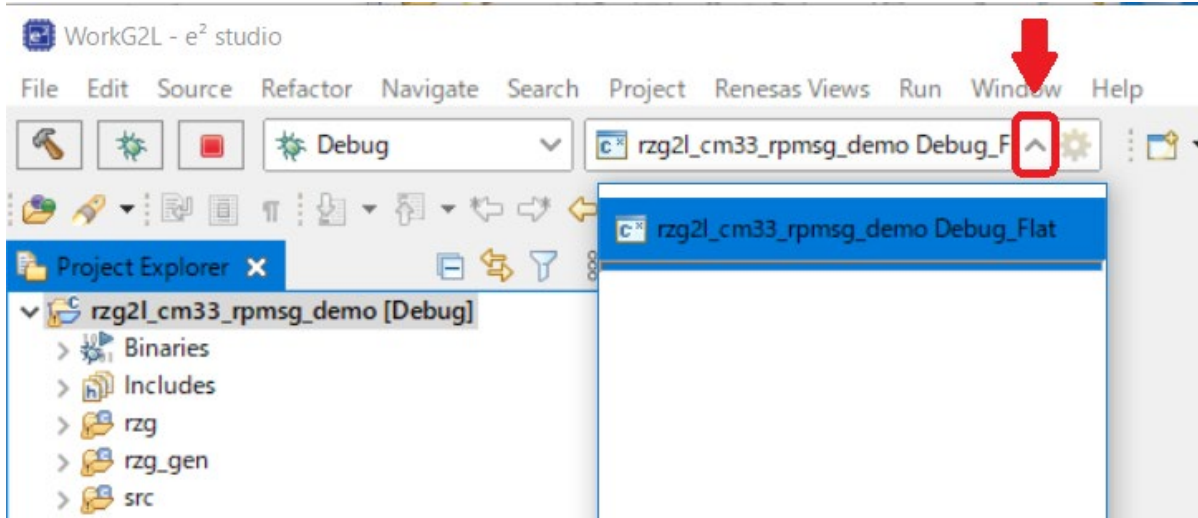

Figure 4-4. Select of Debug Configuration
1. Choose rzg2l_cm33_rpmsg_demo Debug_Flat or rzg2l_cm33_rpmsg_demo Release_Flat from the drop-down list indicated by a red arrow in Figure 4-4.